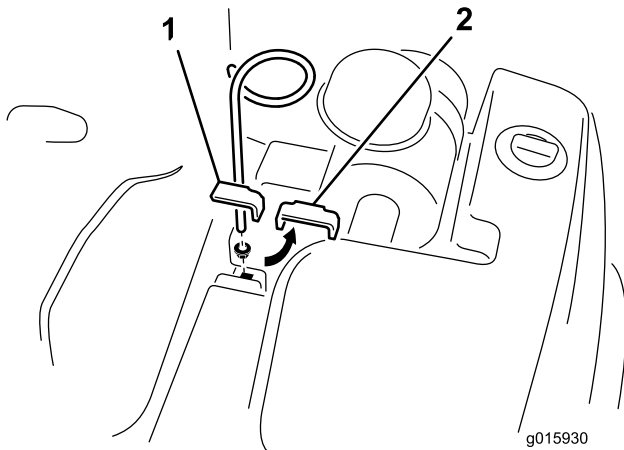

Figure 13
1. Remove the bolt, washer and nut securing the top hydraulic tank clamp to the frame (Figure 13). Remove and discard the clamp, bolt, washer and nut.
2. Install the hose guide with the supplied flange nut. Position the hose guide as shown in Figure 13.